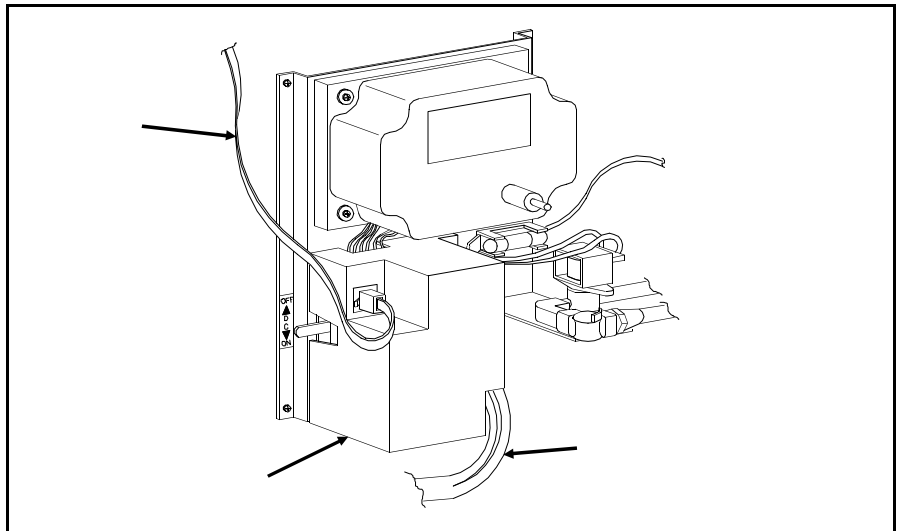

Figure 5.43 Power Supply
4. Remove the cable from the Power Supply shown in Figure 5.43.